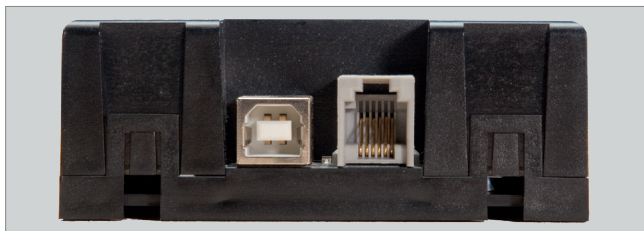

Fig. 10: LocoNet socket on basic module
- ▶ Connect the LocoNet cable (not supplied) to one of the LocoNet ports of the first module, see Fig. 10.